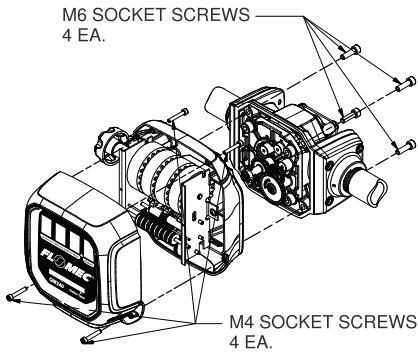

figure 2
1. The mechanical display case can be removed, rotated and reinstalled for easy reading with either horizontal or vertical flow. (see *Figure 2*)
2. Using the 5mm hex L-wrench provided with the meter, remove the (4) M6 socket screws that attach the register case to the housing.
4. Reinstall the (4) M6 socket screws and tighten to 42-46 lb-in [4.7-5.2 N·m] torque.
**Note:** By first removing the (4) M4 socket screws and top cover, better interior viewing can be achieved. This is not a mandatory step though.